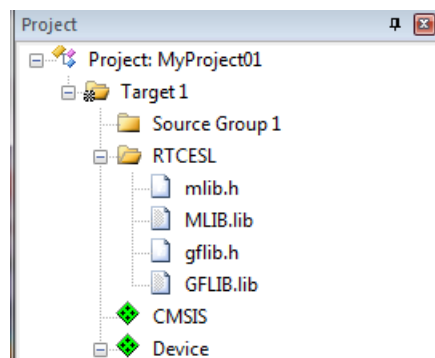

Figure 1-35. Project workspace
8. Now, all necessary files are in the project tree; see Figure 1-35. Click Close.